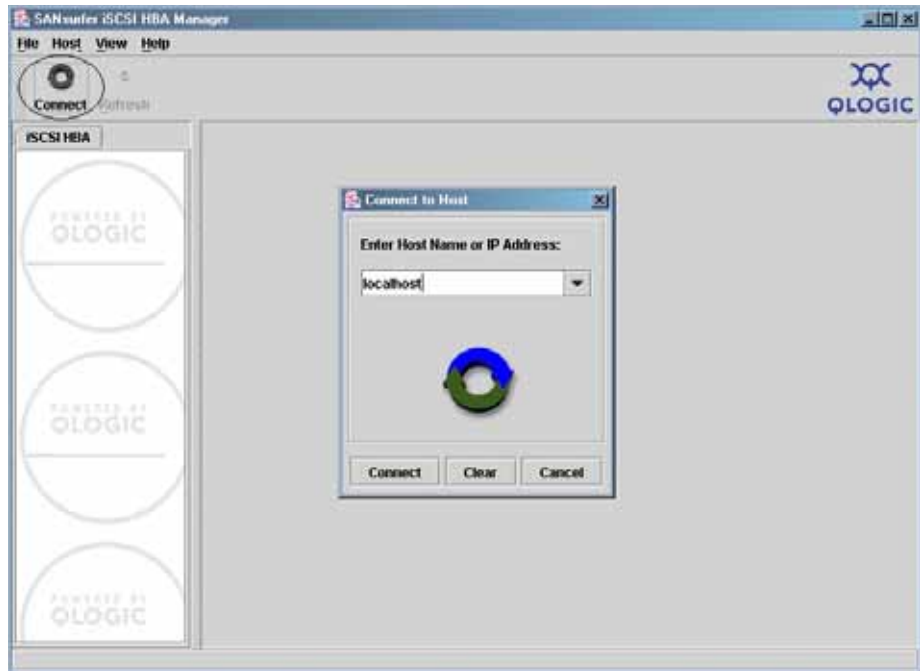

Figure 114 SANsurfer iSCSI HBA Manager, connect to host
- ◆ Click **Connect** in the upper left corner of the **SANsurfer iSCSI HBA Manager** dialog to get the **Connect to Host** dialog, as shown in Figure 114.